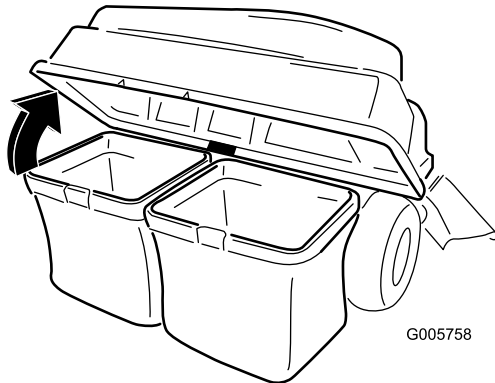

Figure 20
3. Open (raise) the bagger top (Figure 20).